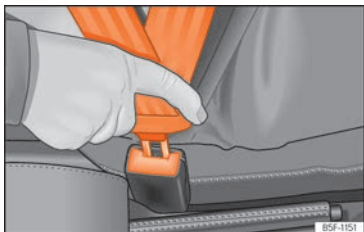

Fig. 10 Insert the latch plate of the seat belt into the buckle.
- Engage the latch plate in the buckle of the corresponding seat »»» Fig. 10.